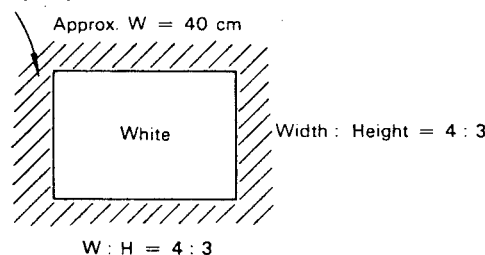

Fig. 15
- 1) Prepare a chart (paper) with the size ratio as shown in Fig. 15.